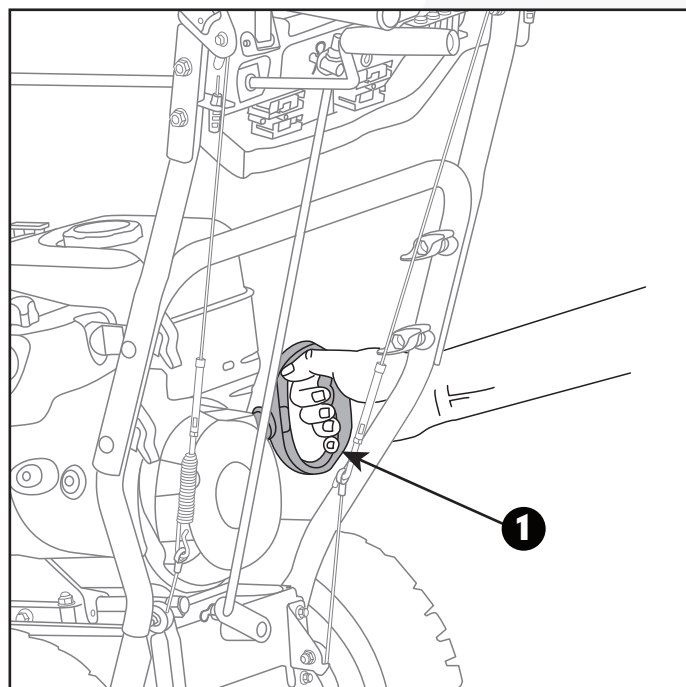

Fig. 11B
6. Standing back and to the right of the unit, pull the recoil starter handle lightly until you feel resistance then pull briskly. Return the recoil starter handle gently. (Fig. 11B)